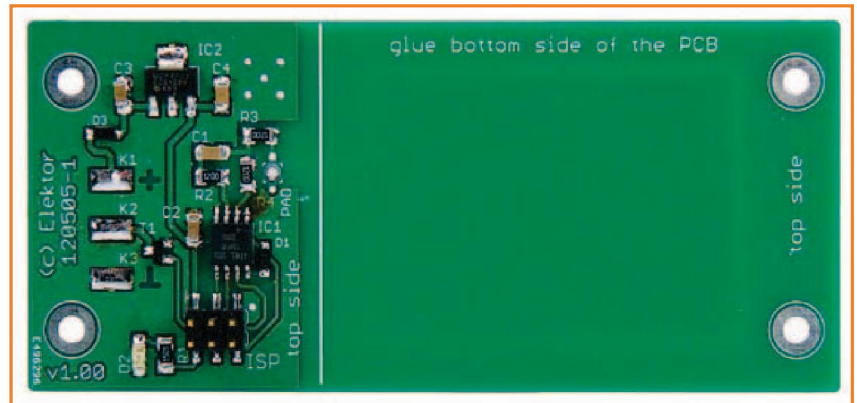

Figure 4.
**Figure 4** shows the finished prototype. The sensitive section around C1 is surrounded by a grounded area. The pad serving as second capacitor plate of the footboard is located on the rear of the PCB (see **Figure 5**). Why? The rear side is positioned opposite the footboard. To avoid mechanical disruption, the components are placed on the other side. For this reason we use an SMD component for the six-way pin header K4 provided for programming the controller. The shape of the pad is not critical but its total surface area needs to be maintained fairly closely. After component placement, programming and testing, the PCB should be sprayed with transparent lacquer if it is to be installed on a vehicle. Make sure K4 is masked off when you do this! The lacquer protects against problems caused by condensing humidity etc. After this glue a thin layer of rubber (around 0.6 mm thickness) onto the rear side of the PCB, to serve as a kind of buffer in case the footboard deflects too far. Glue somewhat thicker sheet rubber (say 1 mm thickness) onto the bare area of the component side. The upper side protected in this way along with the rubber layer should have a matching piece of metal fixed firmly as a sub-layer, so that the PCB can serve as a virtual end stop for the footboard.